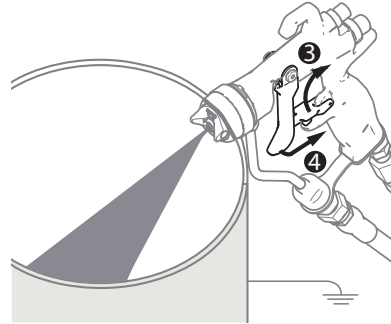

FIG. 17
3. Disengage the trigger lock on the gun. See Figure 17.